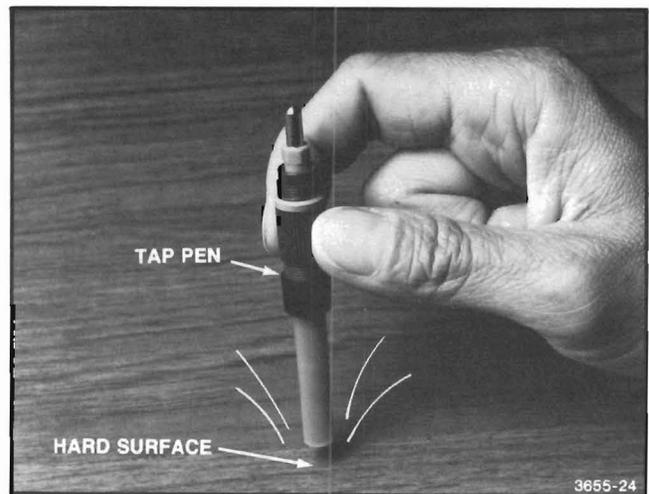

Figure 4-17. Starting Ink Flow by Tapping.
- Turn the pen upside down and tap the ink cartridge sharply on a hard surface (see Figure 4-17). This depresses the spring and wire inside the tip. When the wire returns to its normal position, it cleans the partially dried ink from the tip. Then try writing on paper or film. Repeat if necessary.